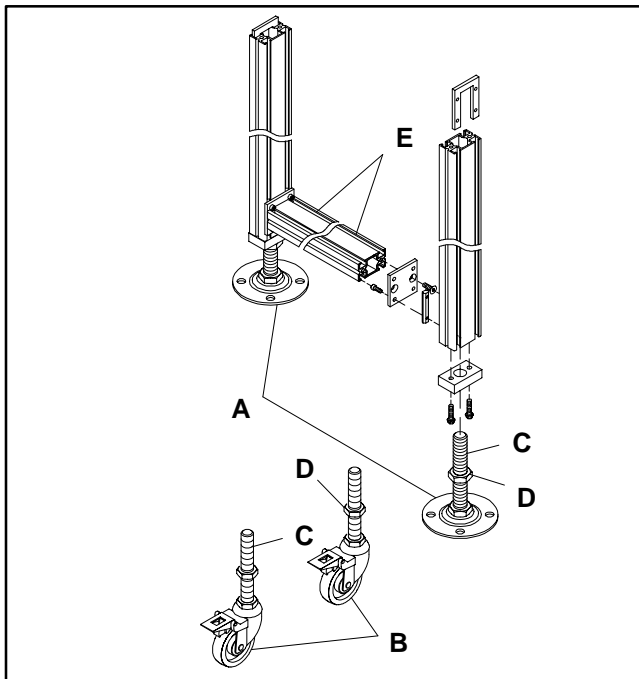

Figure 1: Standard Aluminum Support Stand
Aluminum support stands are available with either permanent floor mounting pads (A of Figure 1) or optional pivoting and dual lockable, 4" (102 mm) diameter casters (B). Both the floor mounting pads or caster assemblies have threaded shafts that provide $\pm 2"$ (51 mm) of adjustment. Rotate the threaded shaft (C) in or out to obtain the desired height and then fix the position by tightening the locking nut (D). Activation of the caster wheel dual lock prevents the caster from both pivoting and rolling. Locks are activated and de-activated with foot pressure.